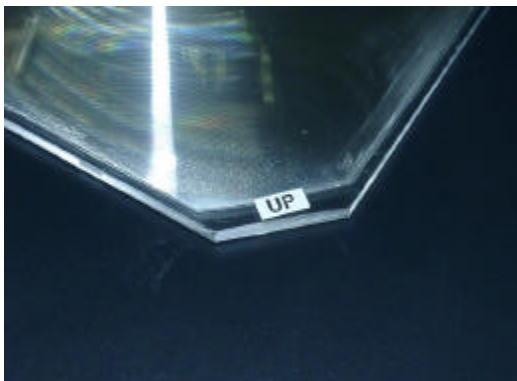

fig. 5
3. To assemble the Fresnel Lens, make sure the “UP” side faced the stage glass. (See fig.5)